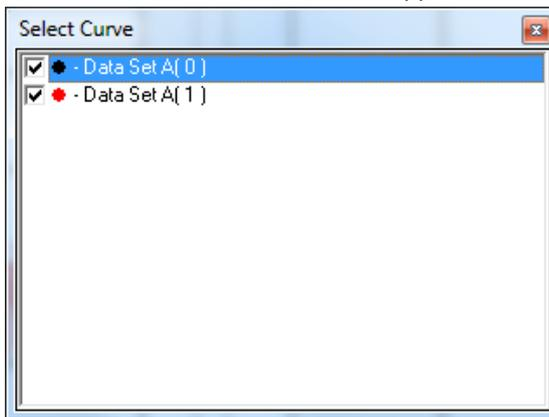

Fig. 42 Data displayed in the graph.
- All data displayed in the graph are shown in the table Graph > Select signal (Fig. 42). DataSet is selected by the left mouse button double-click. Name of the selected DataSet will appear under the graph.